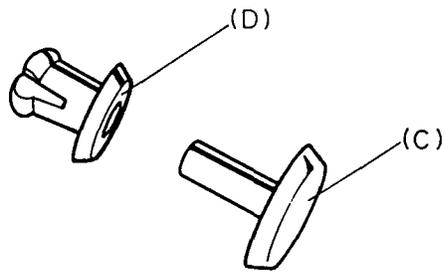

Figure 4-29 Fastener
2. Remove the FL inverter cover (A) from the LCD unit.
3. The FL inverter is held in place by two fasteners (B). Each fastener consists of a pin (C) and a collar (D) as shown in the figure 4-29.